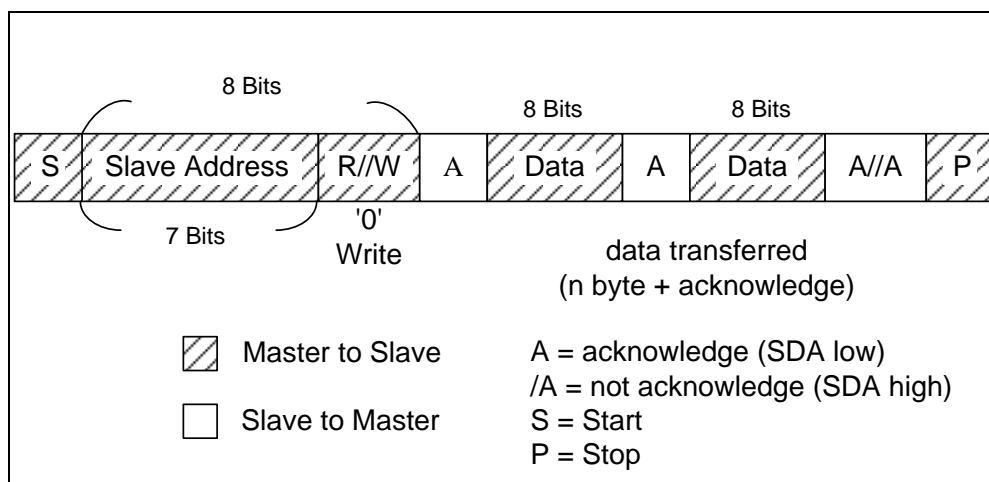
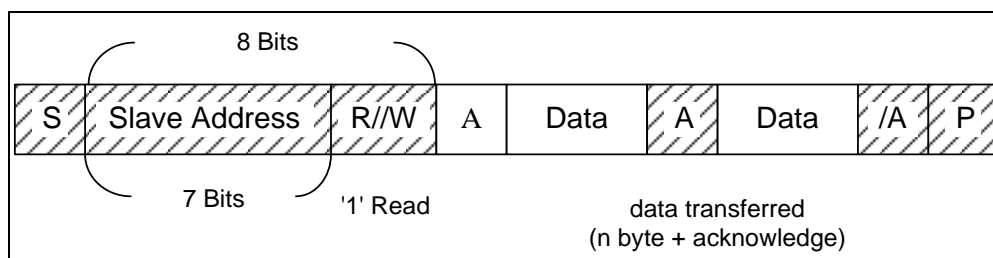

Figure 6-27a Master-Transmitter Transmits to Slave-Receiver with 7-Bit Slave Address
Figure 6-27b Master-Receiver Reads Slave-Transmitter with 7-Bit Slave Address
Master reads Slave immediately after the first byte. At the moment of the first acknowledgement, the Master-transmitter becomes a Master-receiver and the Slave-receiver becomes a Slave-transmitter. This first acknowledgement is still generated by the Slave. The STOP condition is generated by the Master, which has previously sent a not-acknowledge (A). The difference between Master transmitter with Master receiver is only in R/W bit. If the R/W bit is “0”, the Master device is the Transmitter. Otherwise, the Master device is the Receiver. The Master-Transmitter is illustrated in Figure 6-27a “Master-Transmitter transmits to Slave–receiver with 7-Bit Slave Address”, and that of the Master-Receiver is shown in Figure 6-27b “Master-Receiver Reads Slave –Transmitter with 7-Bit Slave Address”.